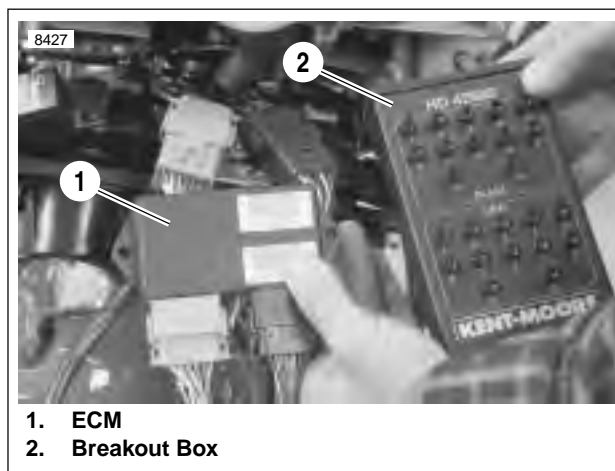

Figure 4-121. Installed Breakout Box
3. See Figure 4-121. Attach Breakout Box (2) to black connector [10].
1. See Figure 4-121. Depress latches on each side of connectors [10] (black) and [11] (gray).